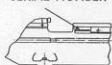

Fig. 45
1. Type and Serial Number of the lathe, and in the case of lathes with gearboxes fitted, also the serial number of the gearbox. For location of numbers see Figs. 45 and 46.
Pour l'emplacement de ces nombres, voir fig. 45 et 46.
Wie die Nummern zu finden sind, zeigen Abb. 45 und 46.